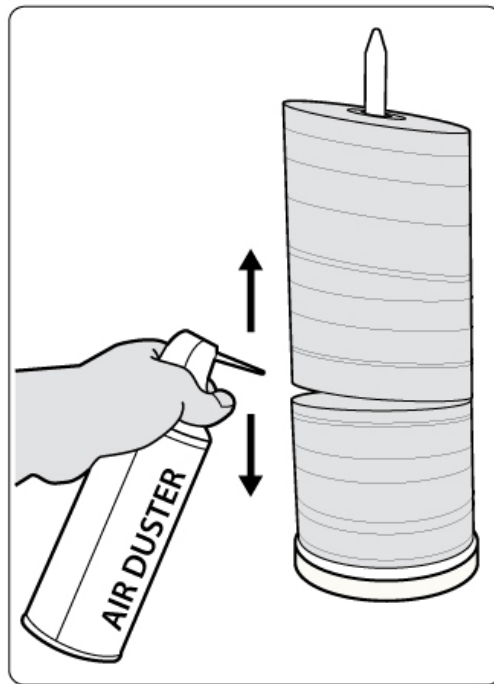

Figure 1-1 Using Canned Air to Reduce Static
- If this doesn't achieve the desired outcome, use an air duster (canned air) to blow air around the circular edge of the blank discs as shown in Figure 1-1. This process reduces the static between the discs up to 90%. The amount of air to use depends on factors specific to your environment.